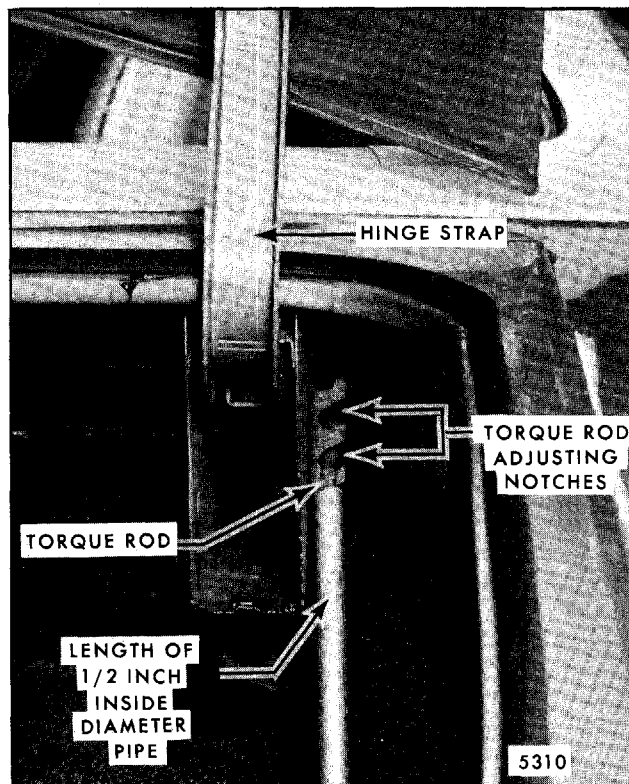

Fig. 7-51-Rear Compartment Torque Rod Adjustment - "A" Styles Only
- g. On all other "A,B,C" styles, except Cadillac, use 1/2" inside diameter heavy wall pipe (refer to Fig. 7-51).